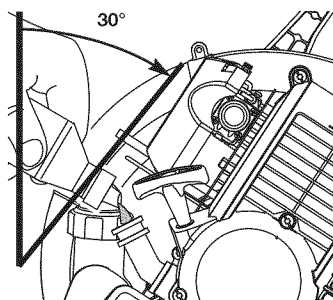

Fig. 11
3. Tilt the unit 30° to the side (Fig. 11).
4. Pour the entire bottle of oil into the oil fill hole (Fig. 11).